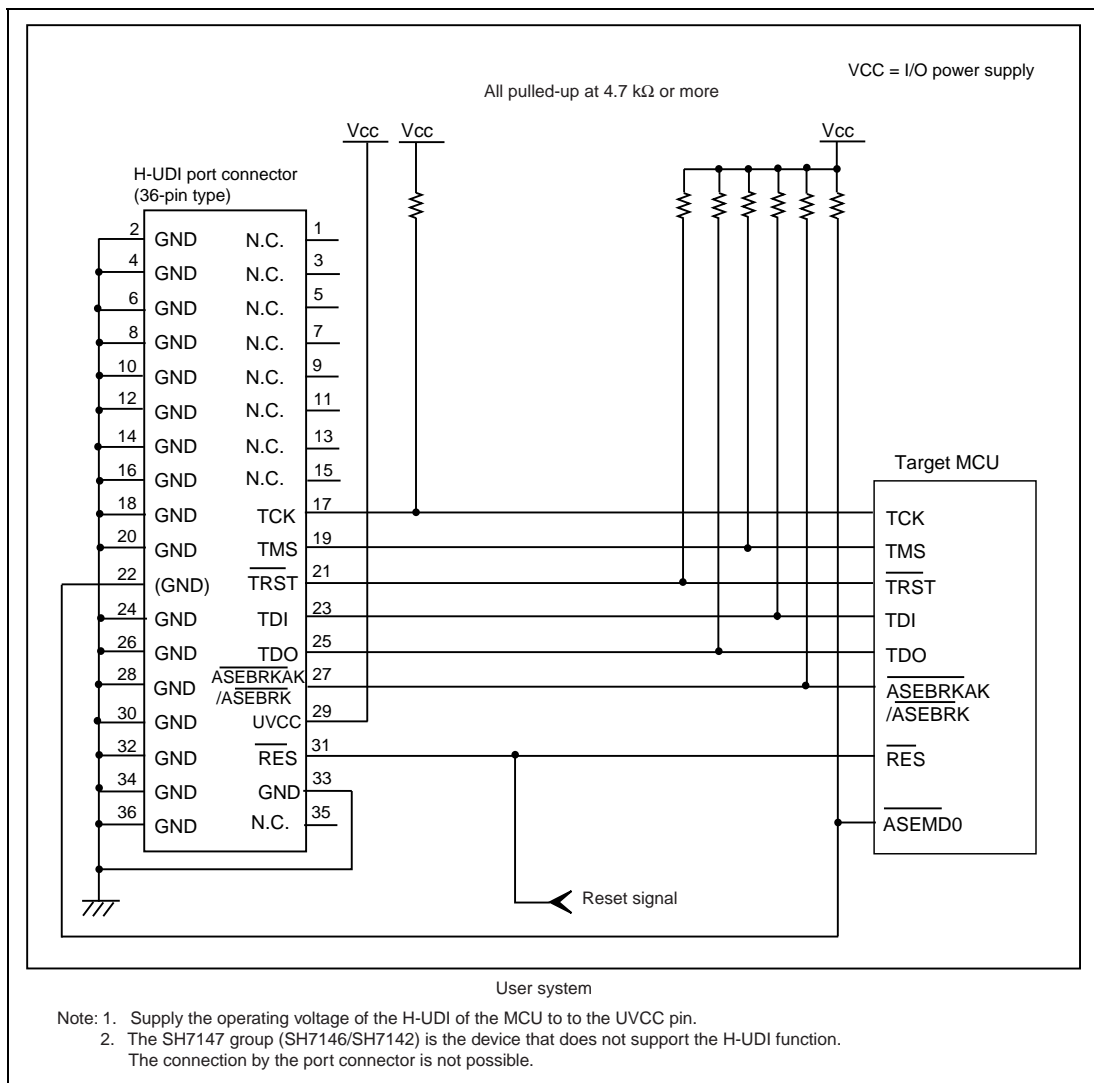

Figure 2.11 Recommended Circuit for Connection between the H-UDI Port Connector and MCU when the Emulator is in Use (36-Pin Type)
Figure 2.11 shows a recommended circuit for connection between the H-UDI and AUD port connectors (36 pins) and the MCU when the emulator is in use.
- (1) When the emulator is used: `_ASEMD` = 0 (ASE mode)
- (2) When the emulator is not used: `_ASEMD` = 1 (Normal mode)Figure 2.11 shows an example of circuits that allow the `ASEMD` pin to be GND (0) whenever the emulator is connected by using the probe head. When the `ASEMD` pin is changed by switches, etc., ground pin 22. Do not connect this pin to the `ASEMD` pin.
6. The resistance value shown in figure 2.11 is for reference.